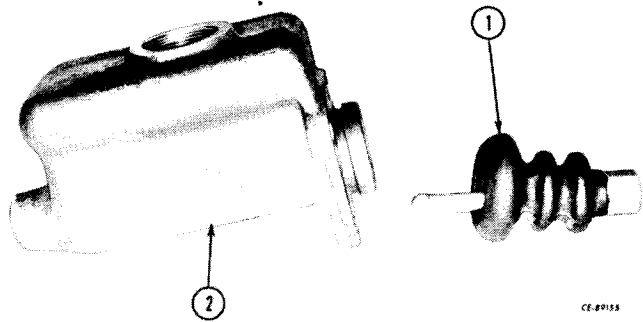

Figure 13-5
Separate boot and push rod assembly (1, Fig. 13-5) from cylinder body (2). Discard boot.
Attach a new boot (1, Fig. 13-5) to push rod and install it on cylinder body (2).